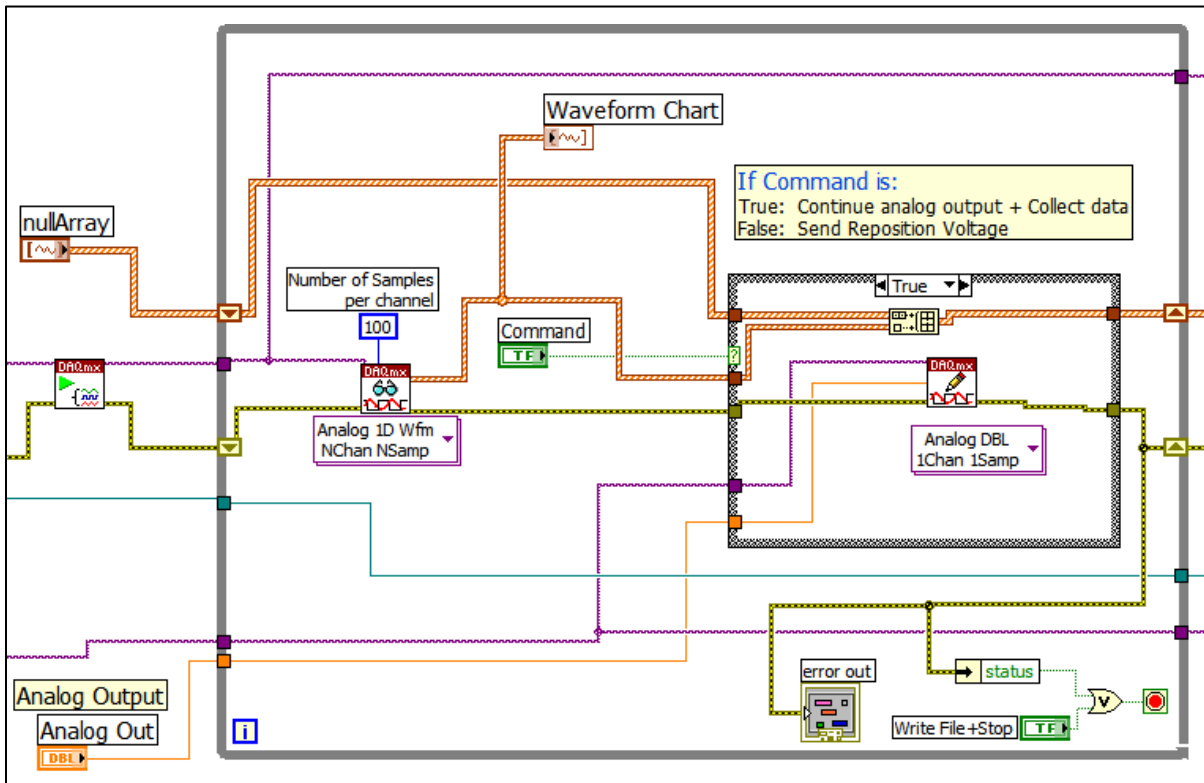

Fig. 5. The Data Acquisition Segment with the Command Button ON
- The **amount of data** collected (and the size of the data file) is dependent on the amount of time the user leaves the Command button ON. The block diagram of this segment with the Command button ON is shown in Fig. 5.